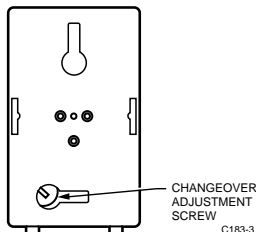

Fig. 10. Location of Calibration Adjustment Screw with Backplate Attached.
1. Use screwdriver end of thermostat tool to turn changeover adjustment screw one-quarter turn counterclockwise (see Fig. 10).
1. Use TP970 Series thermostat tool to turn changeover adjustment screw (Fig. 10) one-quarter turn clockwise.